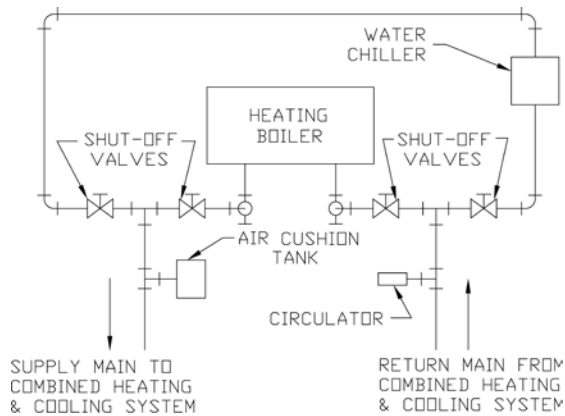

Figure 5: Recommended Piping for Combination Heating & Cooling (Refrigeration) Systems
5. If this boiler is used in connection with refrigeration systems, the boiler must be installed so that the chilled medium is piped in parallel with the heating boiler using appropriate valves to prevent the chilled medium from entering the boiler, see Figure 5. Also, consult Residential Hydronic Heating Installation and Design I=B=R Guide.